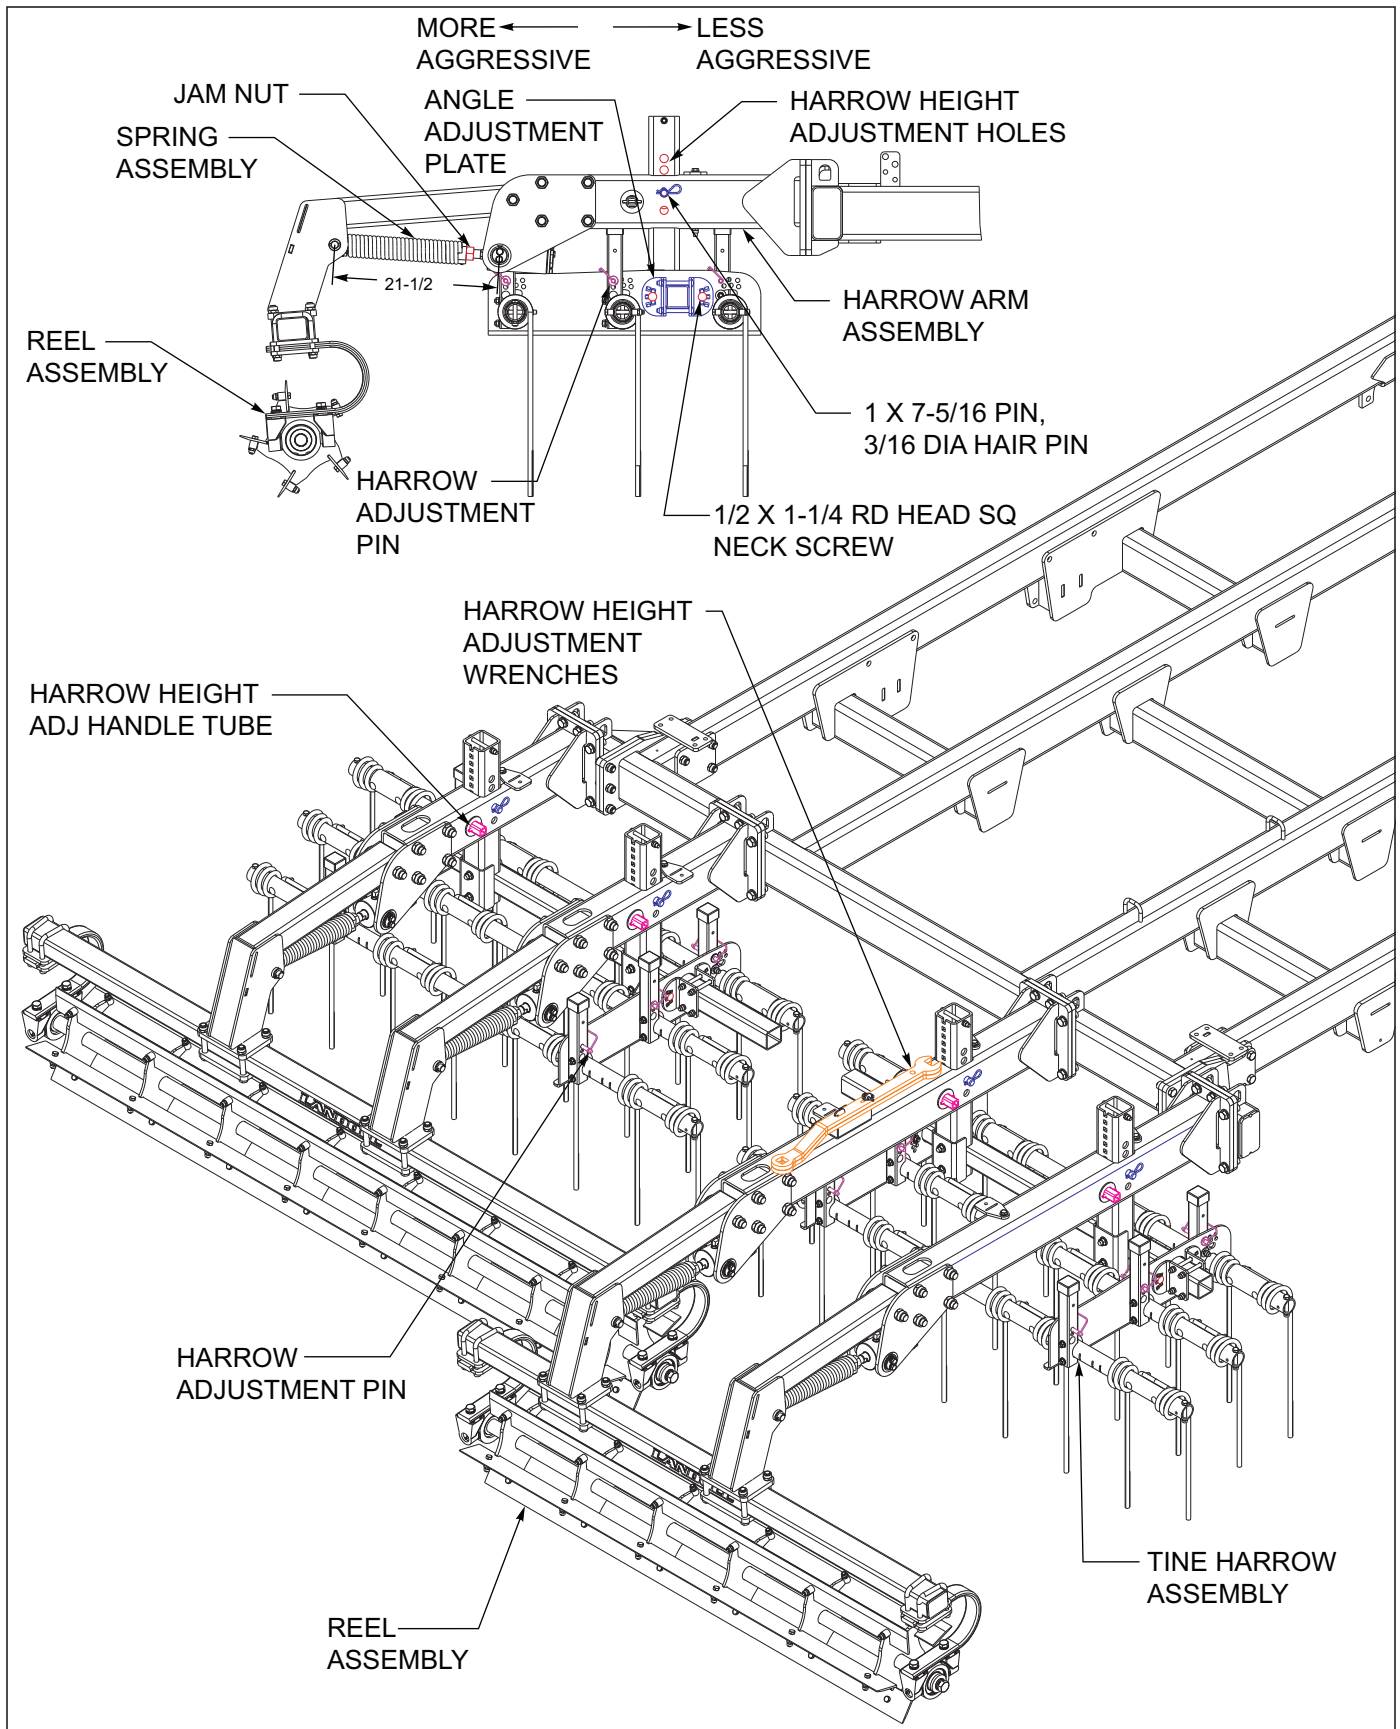

Figure 4-11: 3BCT-Chopper Reel Adjustments
3. The coil tine harrow should run level with the coulter chisel frame. If this needs adjusted, remove the 1/2 x 1-1/4 rd head sq neck screws and rotate tine assembly to level, re-install screws and nuts. When operating the coil tine harrow, a more vertical tine tooth angle will make the harrow more aggressive. A lower/flatter tine angle will make the harrow less aggressive but will handle more residue and wetter conditions. To change the tine angle, raise the harrow off the ground. Remove the harrow pin from both angle adjustment tubes per tine gang bar tube See Figures 4-11. Rotate the angle adjustment tubes forward (less aggressive) or rearward (more aggressive) and reinstall both spring clip pins. Repeat the tine adjustment for each tine gang bar tube and harrow section. Each row can be adjusted as needed, all threerows do not need to be set at the same tine angle.
6. Reels are set to 21-1/2" from Landoll. To adjust the standard reel height, loosen the locking hex nut against the threaded spring end See Figure 4-11. The hydraulic reel can be raised as needed to prevent plugging.